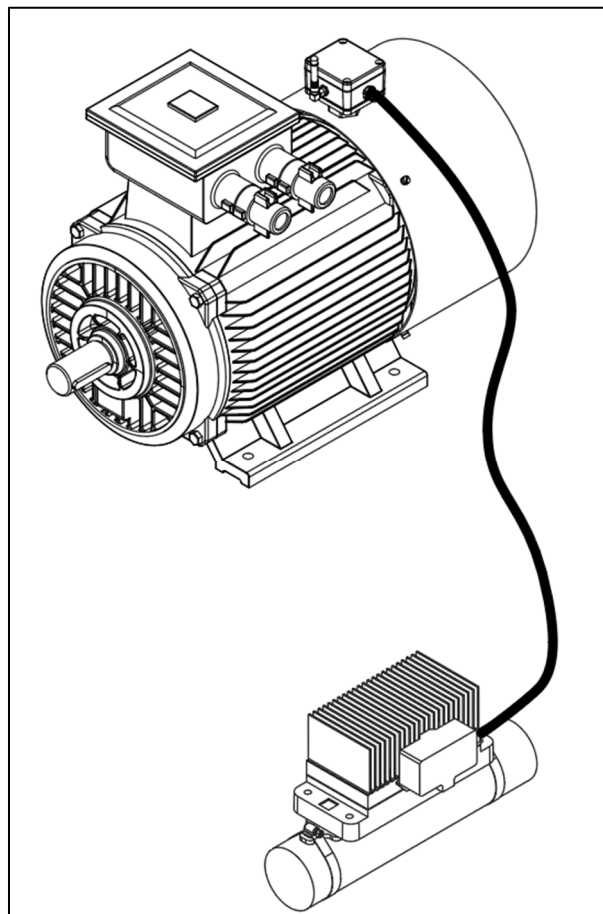

Figure 16.- Connection between the IIoT Wireless and Sensor module and the Generator module (Thermoelectric generator)
- On the other side, from the power generation module, in this case Thermoelectric generator, ensure proper connection between modules (Figure 16).